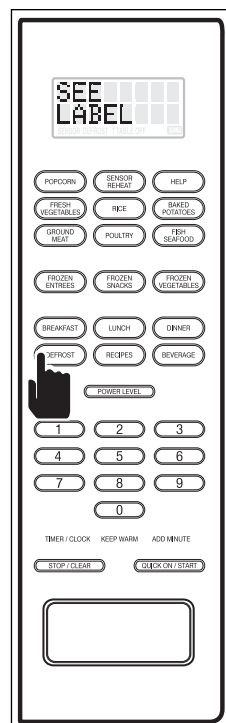

Figure 3-55.
1. Press the DEFROST key and “SEE LABEL - SELECT FOOD - NUMBER” will flash on the display (See Figure 3-55).